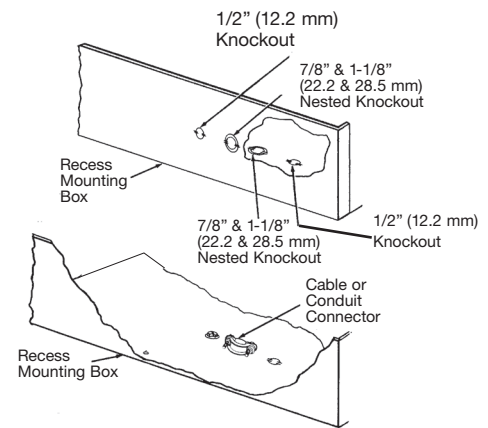

Figure 6
- Remove the Recess Mounting Box (Figure 6) from the carton containing the Recess Mounting Enclosure, Type REA.
- Remove one of the knockouts close to the ground screw and install a cable or conduit connector (Figure 6).